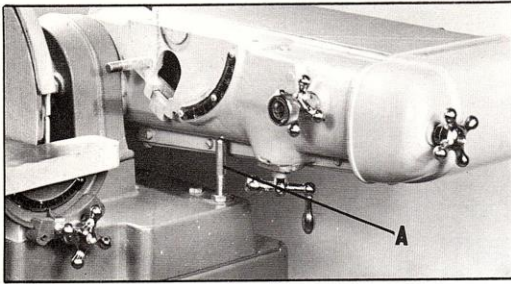

Fig. 13.
2. When moving the sanding arm to the horizontal position, the arm will contact the stop (A) as shown in Fig. 13. IMPORTANT: BEFORE STARTING THE MACHINE AFTER REPOSITIONING THE SANDING ARM ALWAYS CHECK THE TRACKING OF THE BELT.